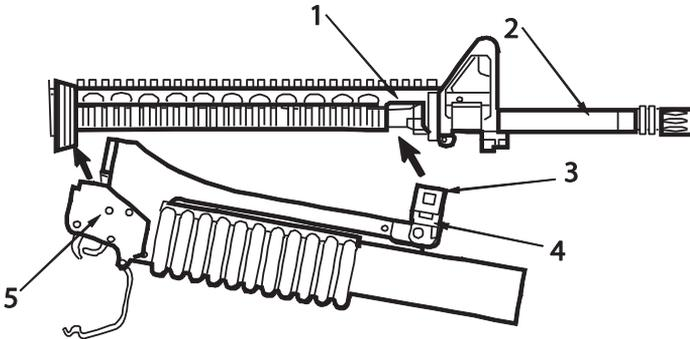

Figure 6. Rifle/QRB Installation.
3. **RIFLE:** Slide latch arm (Figure 6, Item 3) on QRB (Figure 6, Item 4) between barrel (Figure 6, Item 2) and gas tube (Figure 6, Item 1). Close latch arm around barrel and test for movement of M203. If there is movement, remove M203 (Figure 6, Item 5) and reposition the shim plate.